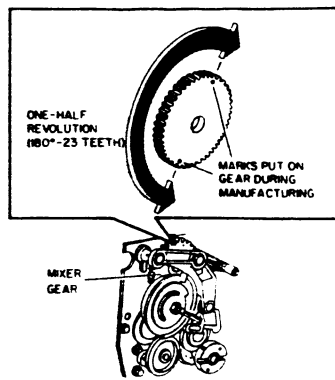

Figure 4. Checking the Mixer Gear
3. PERFORM A CHECK AND MAKE A RECORD OF THE QUANTITY OF PRINTS MADE WHEN MIXER GEAR TURNS 1/2 REVOLUTION (FIGURE 4).